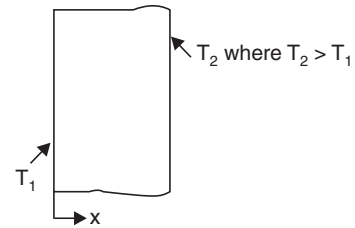

FIGURE 15.4
31. Consider one-dimensional steady state heat conduction, without heat generation, in a plane wall; with boundary conditions as shown in Fig. 15.4. The conductivity of the wall is given by $k = k_0 + bT$, where k_0 and b are positive constants, and T is temperature.